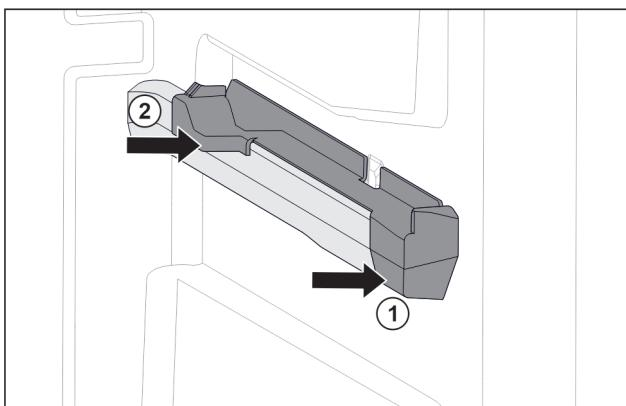

Fig. 122 Attachment on the right molded rib
- ▶ Position attachment on molded rib at the front. Fig. 122 (1)
- ▶ Press on attachment at the back. Fig. 122 (2)